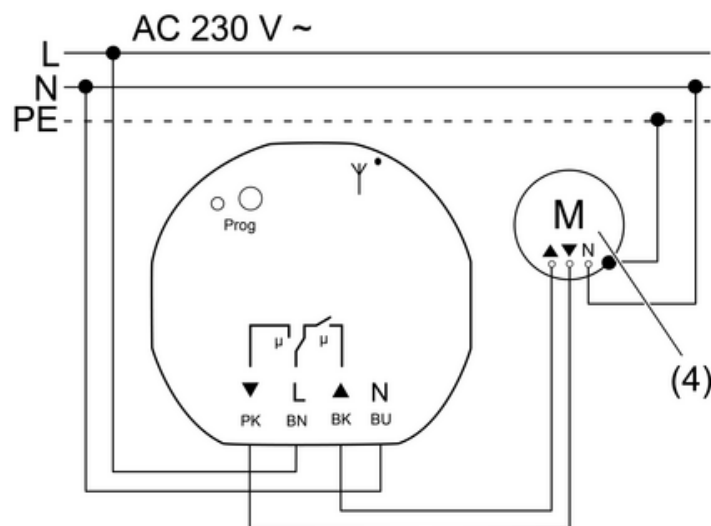

Figure 3: Connection diagram
- Connect venetian blind actuator in accordance with connection diagram (figure 3) with connection terminals (see Using connection terminals), and connect with the venetian blind or roller shutter motor (4).